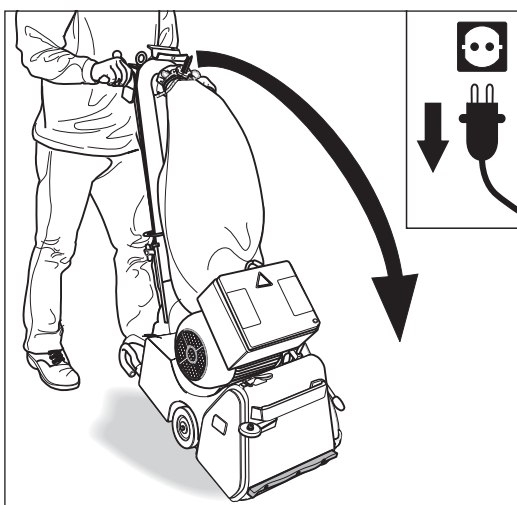
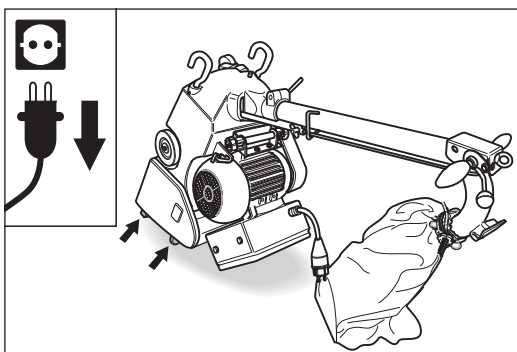

Fig. 95 Pull the power plug out of the socket! Tilt the machine forward over the bracket.
Fig. 96 Ensure that the machine is standing securely!
- 3 Tilt the machine forward over the bracket (fig. 95). **Ensure that the machine is standing securely (fig. 96)!**